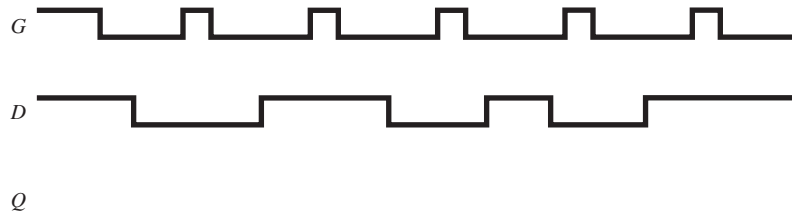

Figure P9
9. Repeat Problem 8 for the G and D inputs shown in Figure P9.